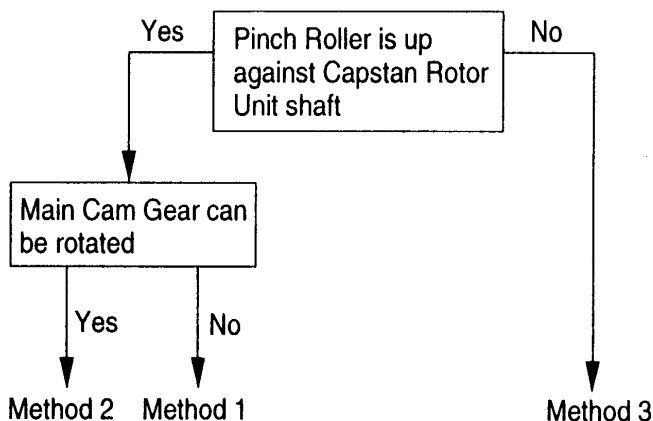

Fig. 14 - Removing A Jammed Tape
**Removing a Jammed Tape** (Figs. 14, 15, 16, 17, 18, 19)